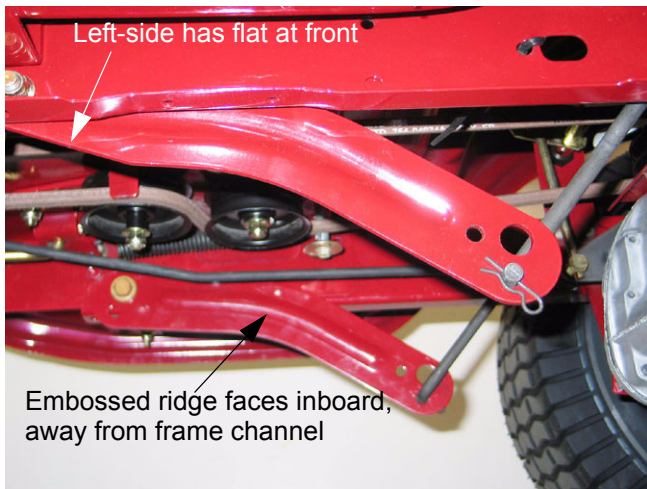

Figure 5.3
- 5.3. The the deck lift links are distinct from left to right: there are two different part numbers. See Figure 5.3.